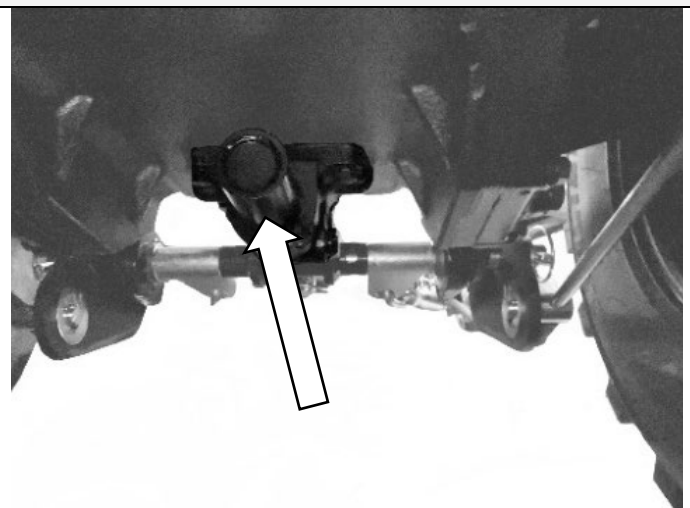

Figure 11C
11. Remove the bolt and cap on the tractors PTO as indicated in (Figure 11C).